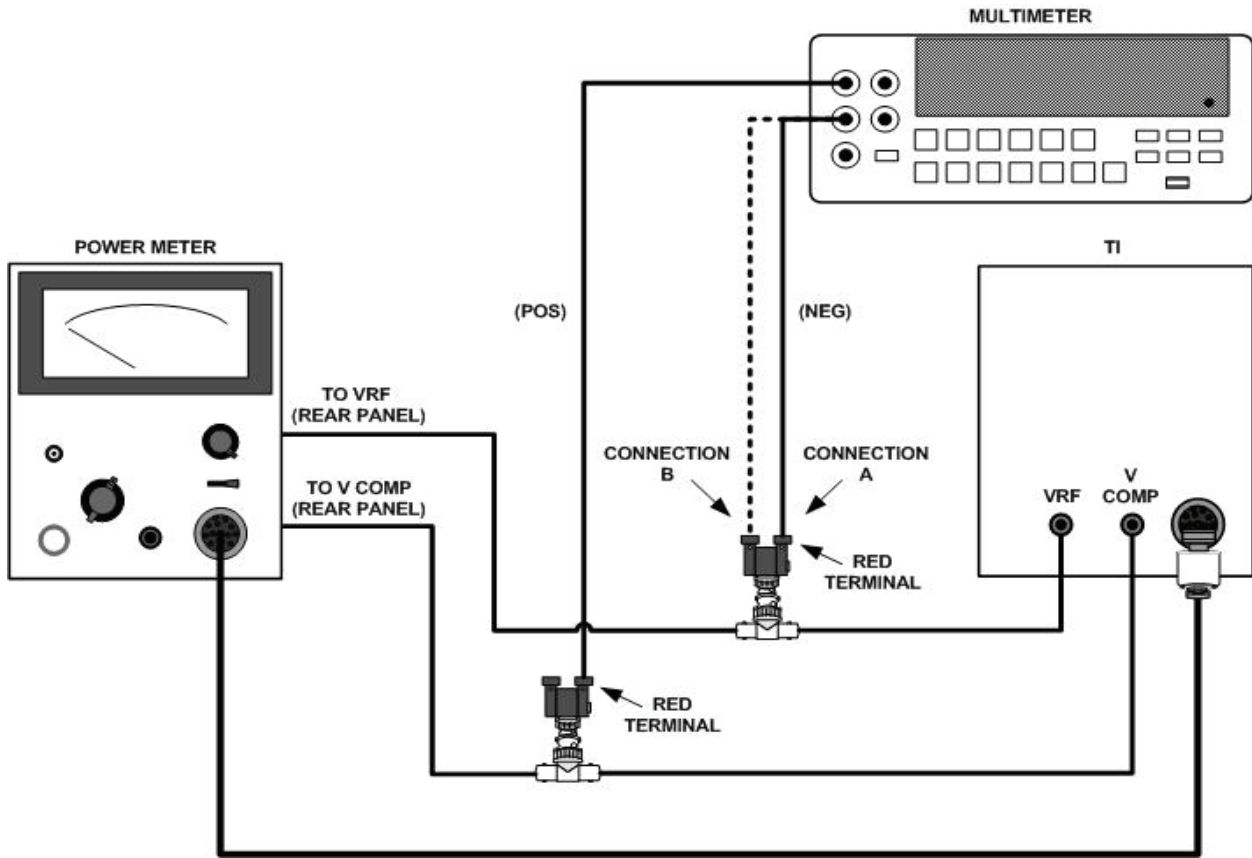

Figure 1. Range accuracy - equipment setup.
- (1) Connect equipment as shown in figure 1, connection A.
- (2) Position power meter controls as listed in (a) through (d) below:
- (1) Connect multimeter as shown in figure 1, connection B.
- (2) Turn TI **POWER (mW)** switch to **.01**.
- (3) Turn TI **FUNCTION** switch to **SET**.
- (4) Set power meter **MOUNT RESISTANCE** switch to **200Ω**. The multimeter will indicate between 5.890 and 5.910 V dc.
- (5) Turn TI **FUNCTION** switch to **CHECK**. The multimeter will indicate between 2.190 and 2.210 V dc.
- (6) Turn TI **FUNCTION** switch to **200Ω**. The multimeter will indicate between 5.897 and 5.903 V dc.
- (7) Turn TI **POWER (mW)** switch to **.03, .1, .3, 1, 2, and 3**. In each position the multimeter will indicate between 5.897 and 5.903 V dc.
(8) Turn TI **POWER (mW)** switch to **10**. The multimeter will indicate between 3.097 and 3.103 V dc.
(9) Turn TI **POWER (mW)** switch to **.01**.
(10) Set the power meter **MOUNT RESISTANCE** switch to **100 Ω** .
(11) Turn TI **FUNCTION** switch to **100 Ω** . The multimeter will indicate between 2.197 and 2.203 V dc.